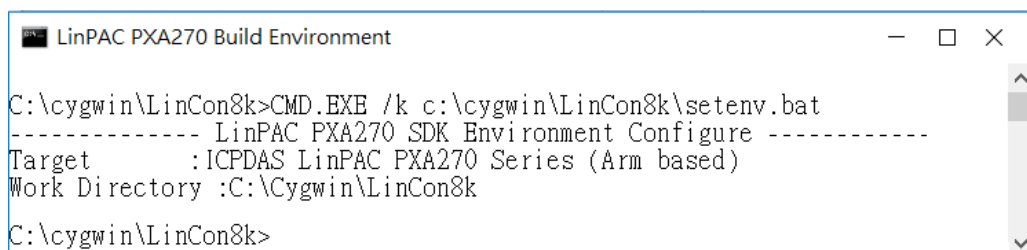

Figure 1.3.1-11. Click the 'LinPAC_AM335x Build Environment'
9. Type **'make'** command (needs run as an administrator). A Command Prompt window will then be displayed that allows applications for the LP-8x4x to be compiled. Refer to Figure 1.3.1-12.